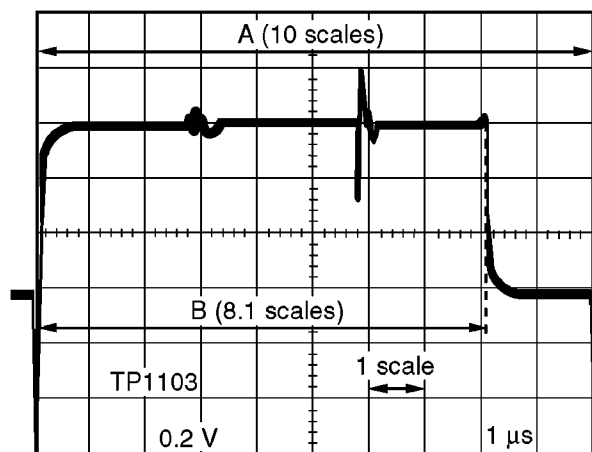

Fig. E2
3. Set the oscilloscope so that the "A" becomes 10 scales on the oscilloscope as shown in Fig. E2.
5. While slowly turning R1128 on the Sub Power C.B.A., adjust to the first point that "B" becomes 8.1 scale on the oscilloscope as shown in Fig. E2.